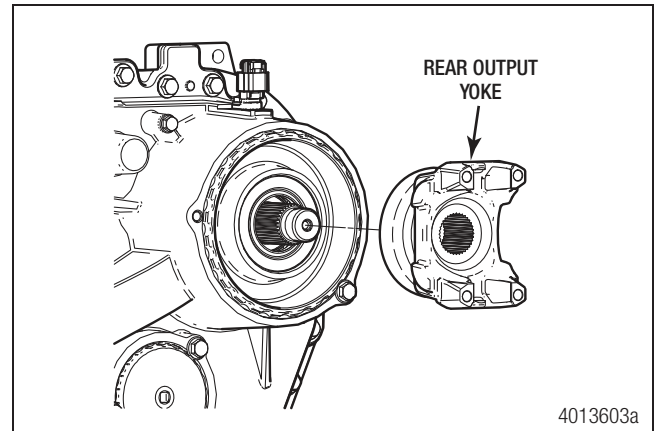

Figure 7.47
7. Install the rear output yoke on the input shaft. Figure 7.47.